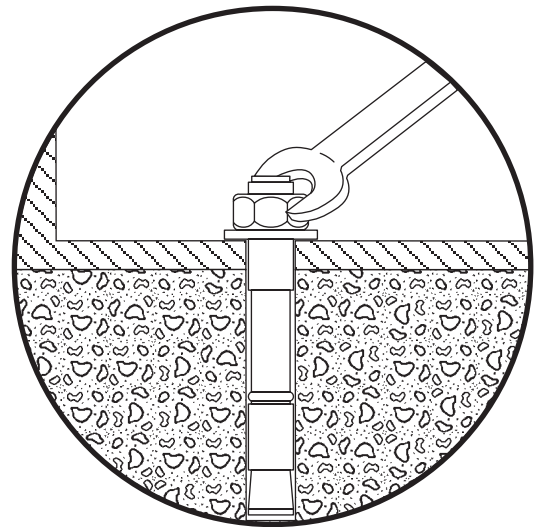

**FIGURE 1**
2. Attach diagonal braces to island core uprights using 3/8" bolts. If core is a stand-alone unit, use washers on outside of uprights. (See Figure 1)